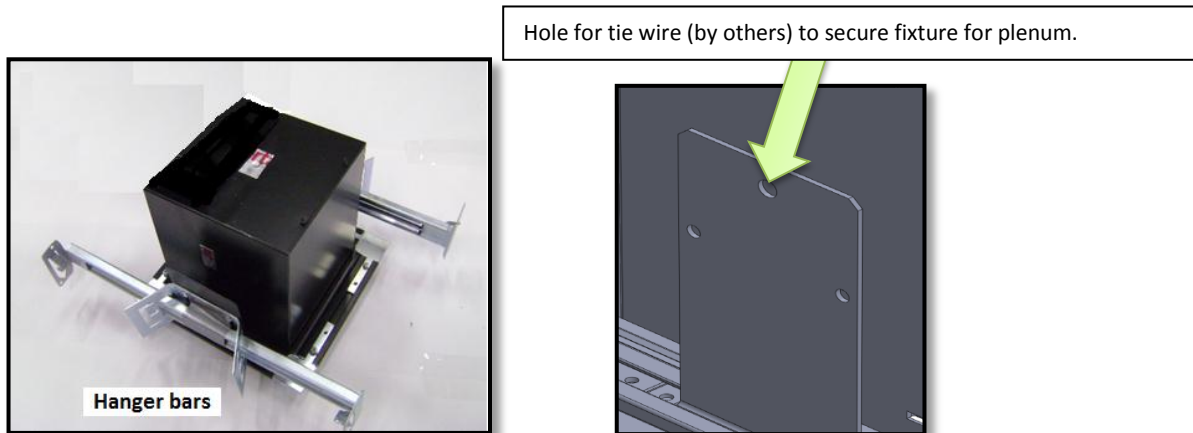

Figure 1.
- a) Secure hanger bars to structural members in ceiling. An additional mounting option is to use slide in brackets and support via wire or cable to above structural member (Figure 1.). Prep for wiring by bringing a flexible conduit of sufficient length to go approximately 12 inches below the ceiling plane.